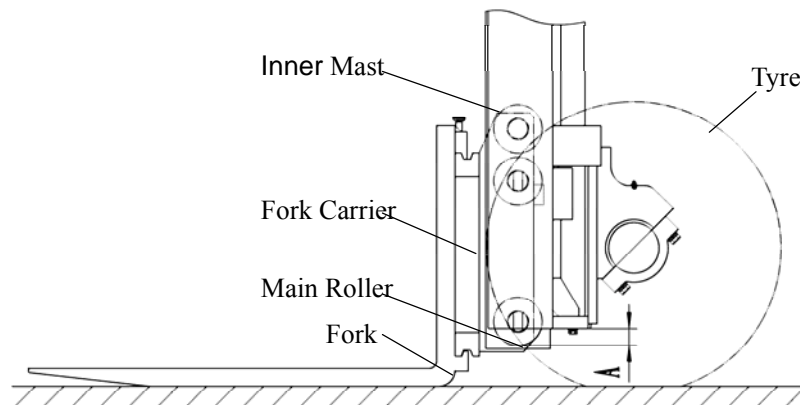

Figure 2-39
7.4.2 Fork Carrier Height Adjustment(Figure 2-39)